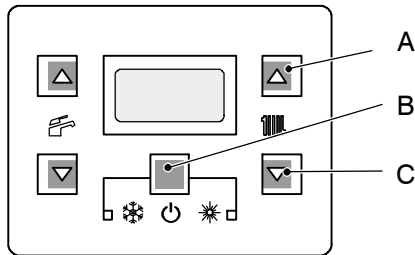
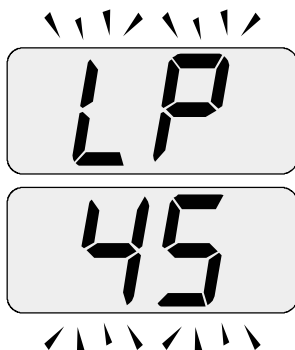
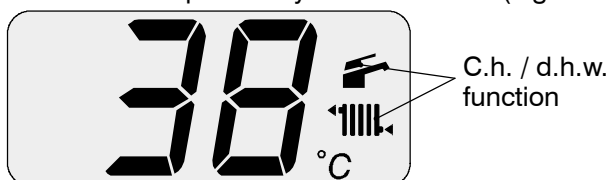

Fig. 11.5
Fig. 11.7
Fig. 11.10
- 14 To enter in the parameters setting mode press contemporary the 3 keys (A – B – C Fig. 11.5) for 10 second until the display shows Fig. 11.6
- 15 Press keys A and C (Fig. 11.5) at the same time until the display shows the letters **LP** that alternate with the heating water temperature value (e.g.**45**), indicating the activation of the "chimney sweep function" at minimum output (Fig. 11.7).
- 23 Press keys A – B – C (Fig. 11.5) at the same time again to exit the "chimney sweep mode" and return to the previously set boiler status (Fig. 11.10)